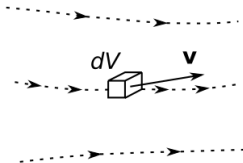

Figure 1: Moving infinitesimal fluid element.
- Consider the moving infinitesimal fluid element in figure 1, having a volume δV and a mass $\delta m = \rho \delta V$. Since mass is conserved and the element is moving the time rate of change of mass of the element is zero as expressed by the substantial derivative,